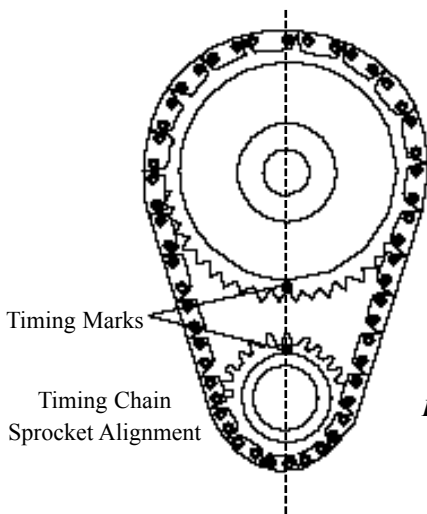

Figure 1
13. Rotate engine until timing marks are aligned as shown in Figure 1.
**CAUTION:** Use Edelbrock Performer-Link True Rolling Timing Chain and Gear Set #7820 or Accu-Drive gear drive set #7892. Do not use late model timing chain & gear sets that are designed in a retarded position and are not recommended for this camshaft installation. Edelbrock Timing Sets feature three keyways for specific timing selection. Use locking compound material on the bolt threads holding timing gear to cam. Torque to factory recommendations specified in motor repair manual. Install camshaft with timing marks lined up as recommended by factory specifications. See Figure 1. When using Performer-Plus Timing Chain and Gear Sets (7800 series) with Edelbrock cam and lifter kits, straight up timing alignment is achieved. If any other timing gear set is used, it is necessary to check cam position for correct timing alignment. This requires indexing the camshaft with a degree wheel to verify timing alignment. O.E.M. or non-Edelbrock timing gear sets are not recommended for use with Edelbrock camshafts.
- After the cam is installed and timed correctly (see Figure 1), it will be necessary to check each pushrod for correct lifter pre-load.